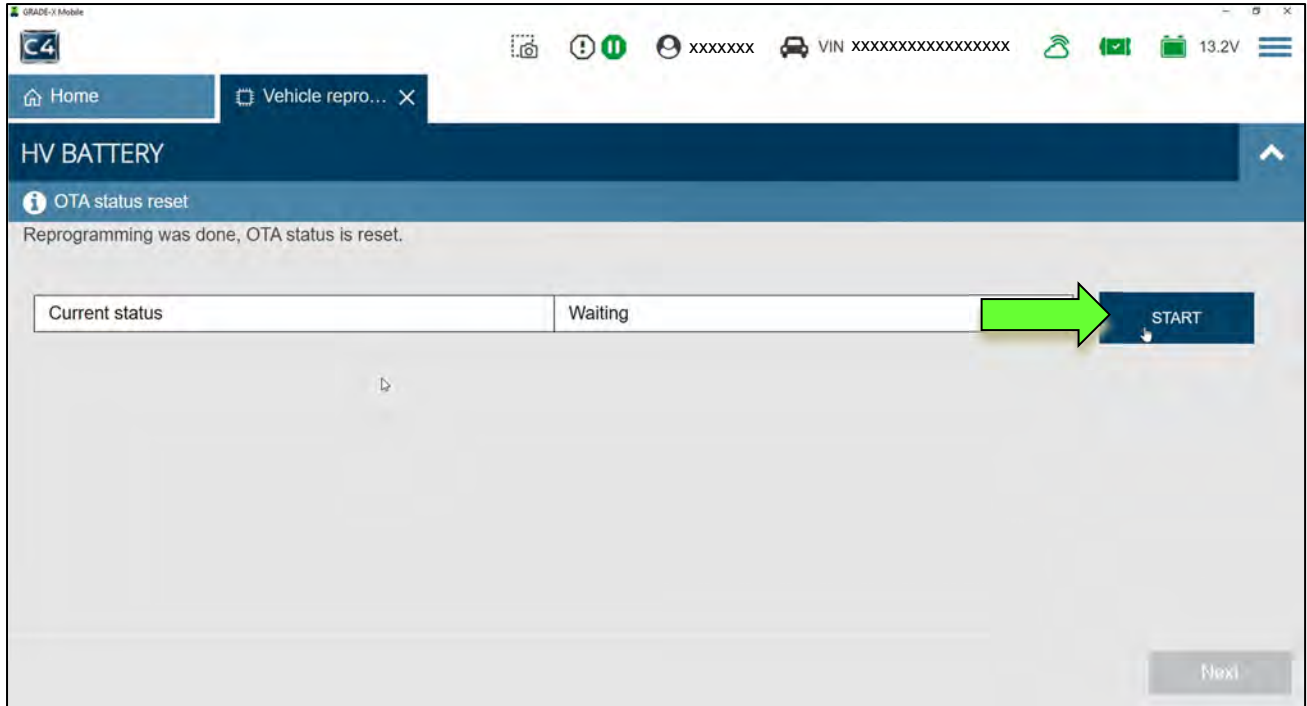

Figure 34
56. When the screen in Figure 34 is displayed, select **START**.